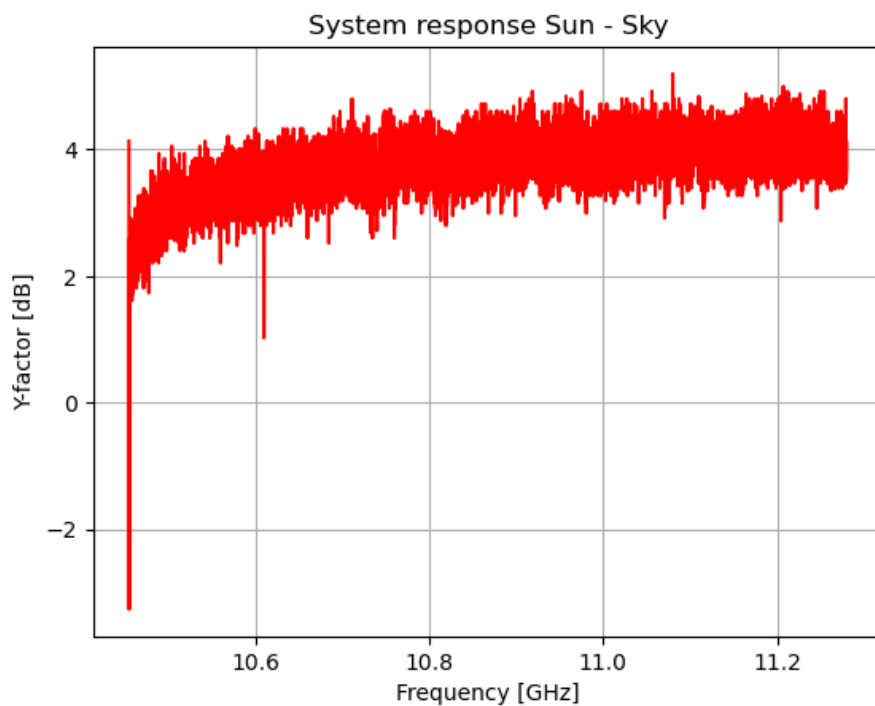

Fig. 17: Y-factor of Sun – cold sky. The higher frequency the more power we get. But the risk is higher due to smaller beam size to point to the sun.
14. Measure spectral overview with Callisto at hot-position, at cold-position and while pointing to the sun. Example, see appendix figure 17. Read and plot raw data as well as Y-factor of sun-cold as well as hot-cold. Repeat the same while pointing to a geostationary satellite and from that find about 10 quiet frequencies over the whole spectrum and select those frequencies in frequency program frq?????.cfg which is used to generate integrated light curves. To find azimuth and elevation of geostationary satellite, use python script GeoAzEl.py For an example, see appendix figure 16.